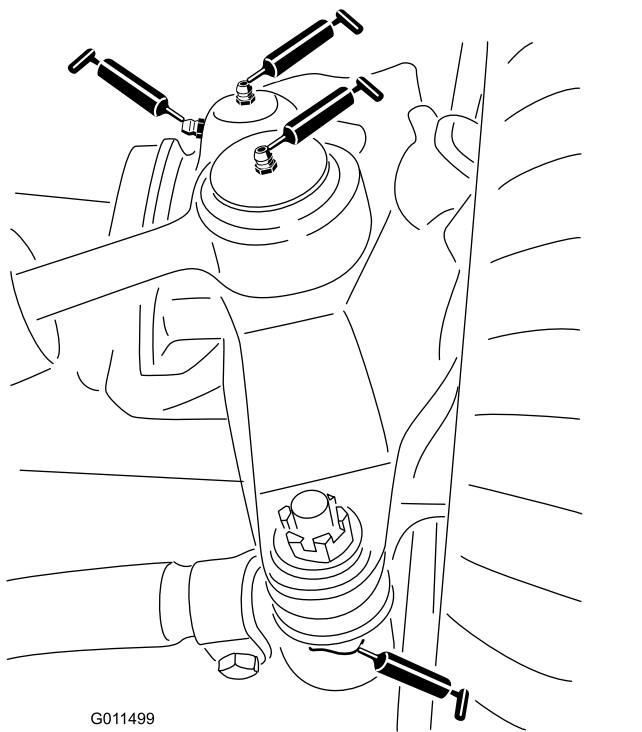

Figure 43
- 2 steering-cylinder-ball joints (Figure 43)
- 2 tie-rod-ball joints (Figure 43)
- 2 king-pin bushings (Figure 43).